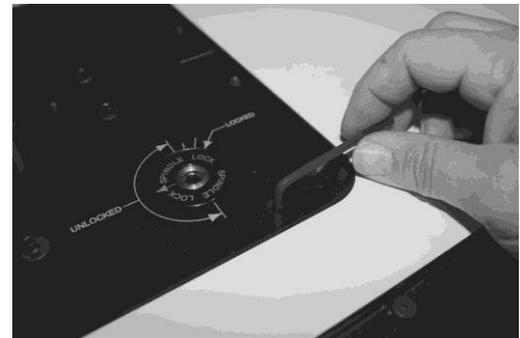

Figure 8
1. With the Mast-R-Lift™ II in the table top opening, install (10) set screws into the holes around the lift perimeter. Adjust (Figure 8) the four corners first to align the lift surface to the table surface so that both are flush. Adjust the remaining set screws on the sides to provide added support.